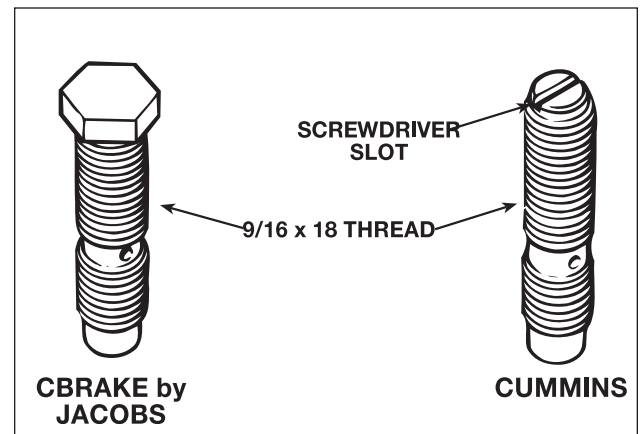

FIG. 5
6. Remove the Cummins injector rocker lever adjusting screws and install the CBrake by Jacobs™ injector rocker lever adjusting screws and hex jam nut on cylinders 1, 3 and 5 (see Fig. 5).